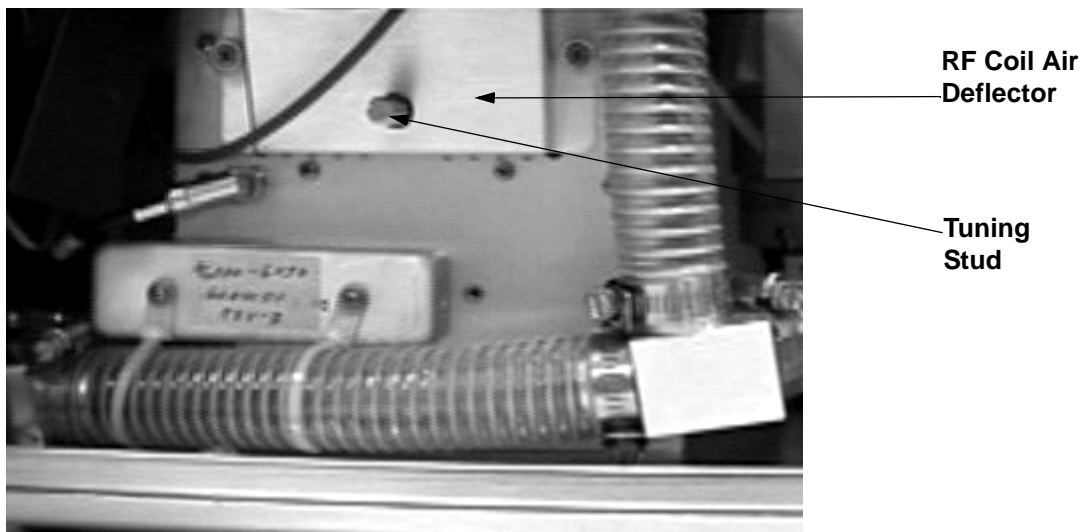

Figure 4-13. Ring electrode RF voltage tuning stud
- b. With a Phillips screw driver, remove the air deflector to expose the tuning stud. See Figure 4-13.